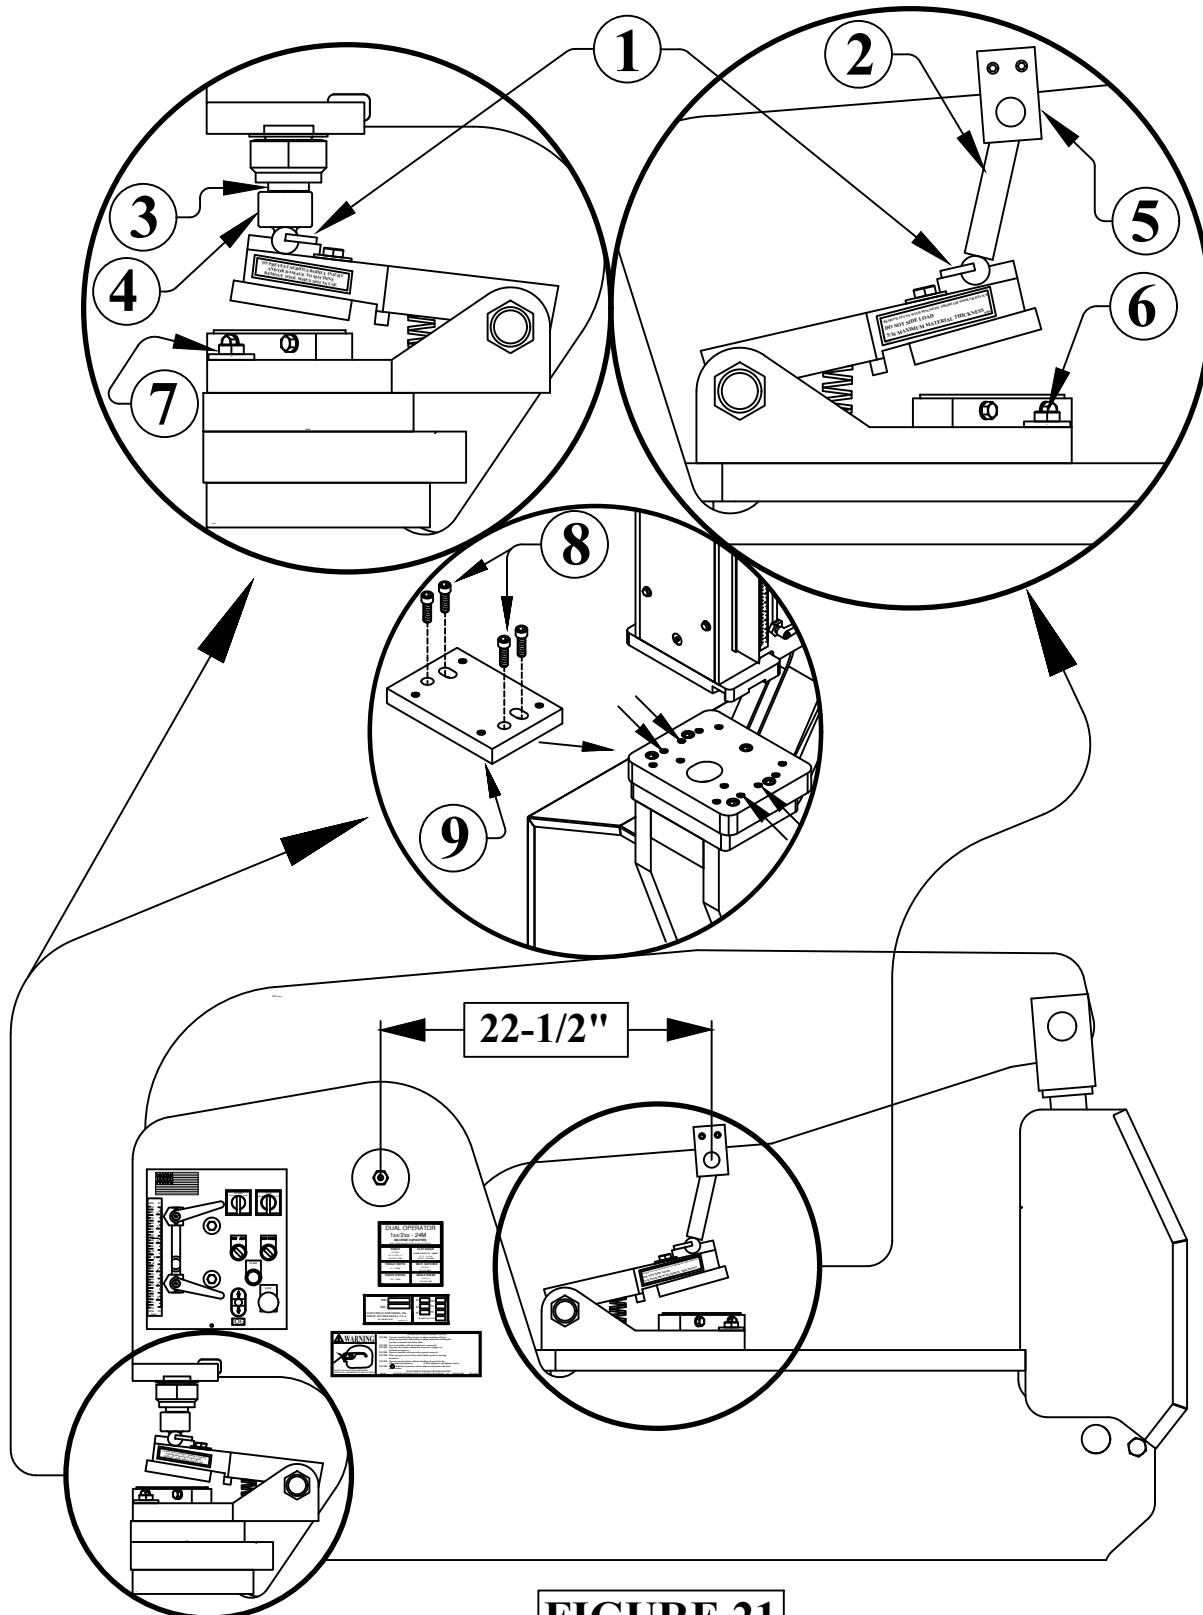

FIGURE 21
SEE FIGURE 21 ON THE FOLLOWING PAGE
To install the notcher under the upper arm, the tool should be mounted as close to the frame as possible and anchored with the bolts (6) provided. The pusher (2) and beam block (5) should be installed as shown in FIGURE 21. NOTE: A distance of 22-1/2" between the main pin and block (5) is ideal.
To mount the notcher in the punch station, first remove the punch, die, die holder and stripper. Then install the riser (9) on top of the punch bolster with the four 16mm SHCS (8) provided. Mount the short punch pusher (3) with the jam nut. Mount the notcher to the punch table with the front of the notcher extending past the front of the punch table about a 5/16 inch. SEE FIGURE 21. Secure the notcher to the punch table with the heavy washer and bolt (7) provided. Punch pusher (3) and notcher pusher (4) should align as shown with the punch pusher toward the front of the notcher pusher. After the notcher is mounted, install the neoprene slug pad.